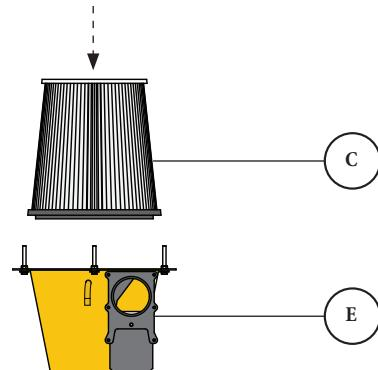

FIG. 16
- 16** Place the Filter (C) on top of the Cyclone (E) with the open side facing down [FIG. 16].